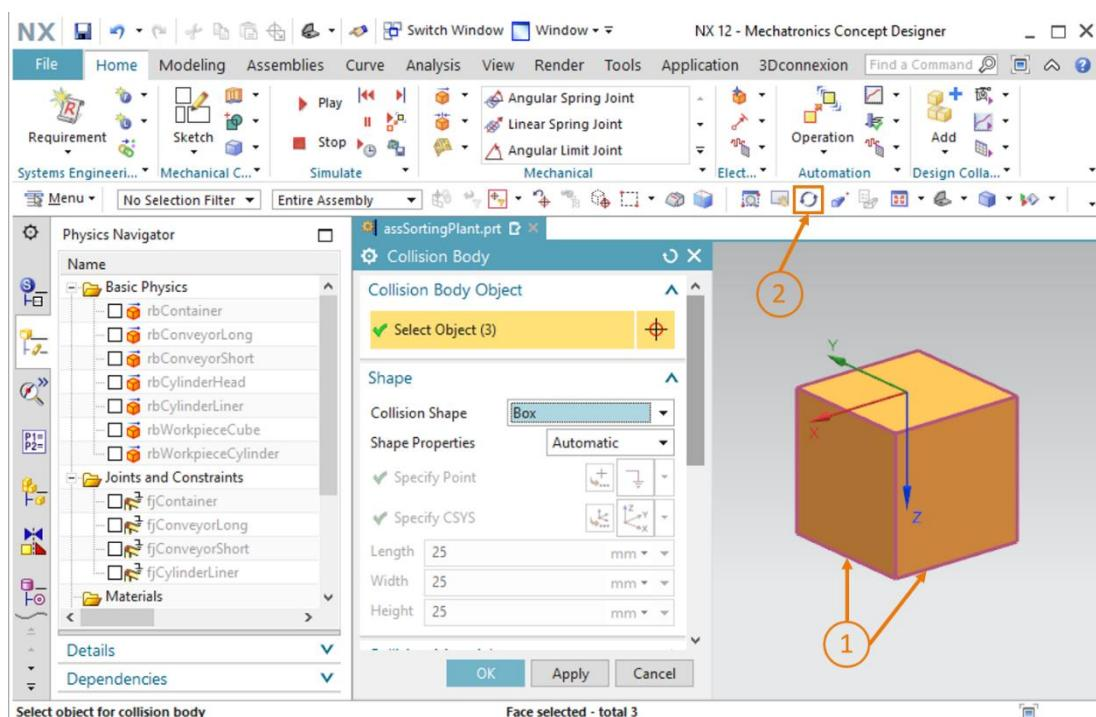

Figure 21: Creating the collision body for workpieceCube – Selection of additional surfaces
- Select the two other visible surfaces of the cuboid (see Figure 21, step 1). You should have a total of three surfaces (see parenthesized information in the "Select Object" button). In order to also see the remaining surfaces of the body, you need to change the view. To do this, click the "Rotate" button  to rotate the model (see Figure 21, step 2).